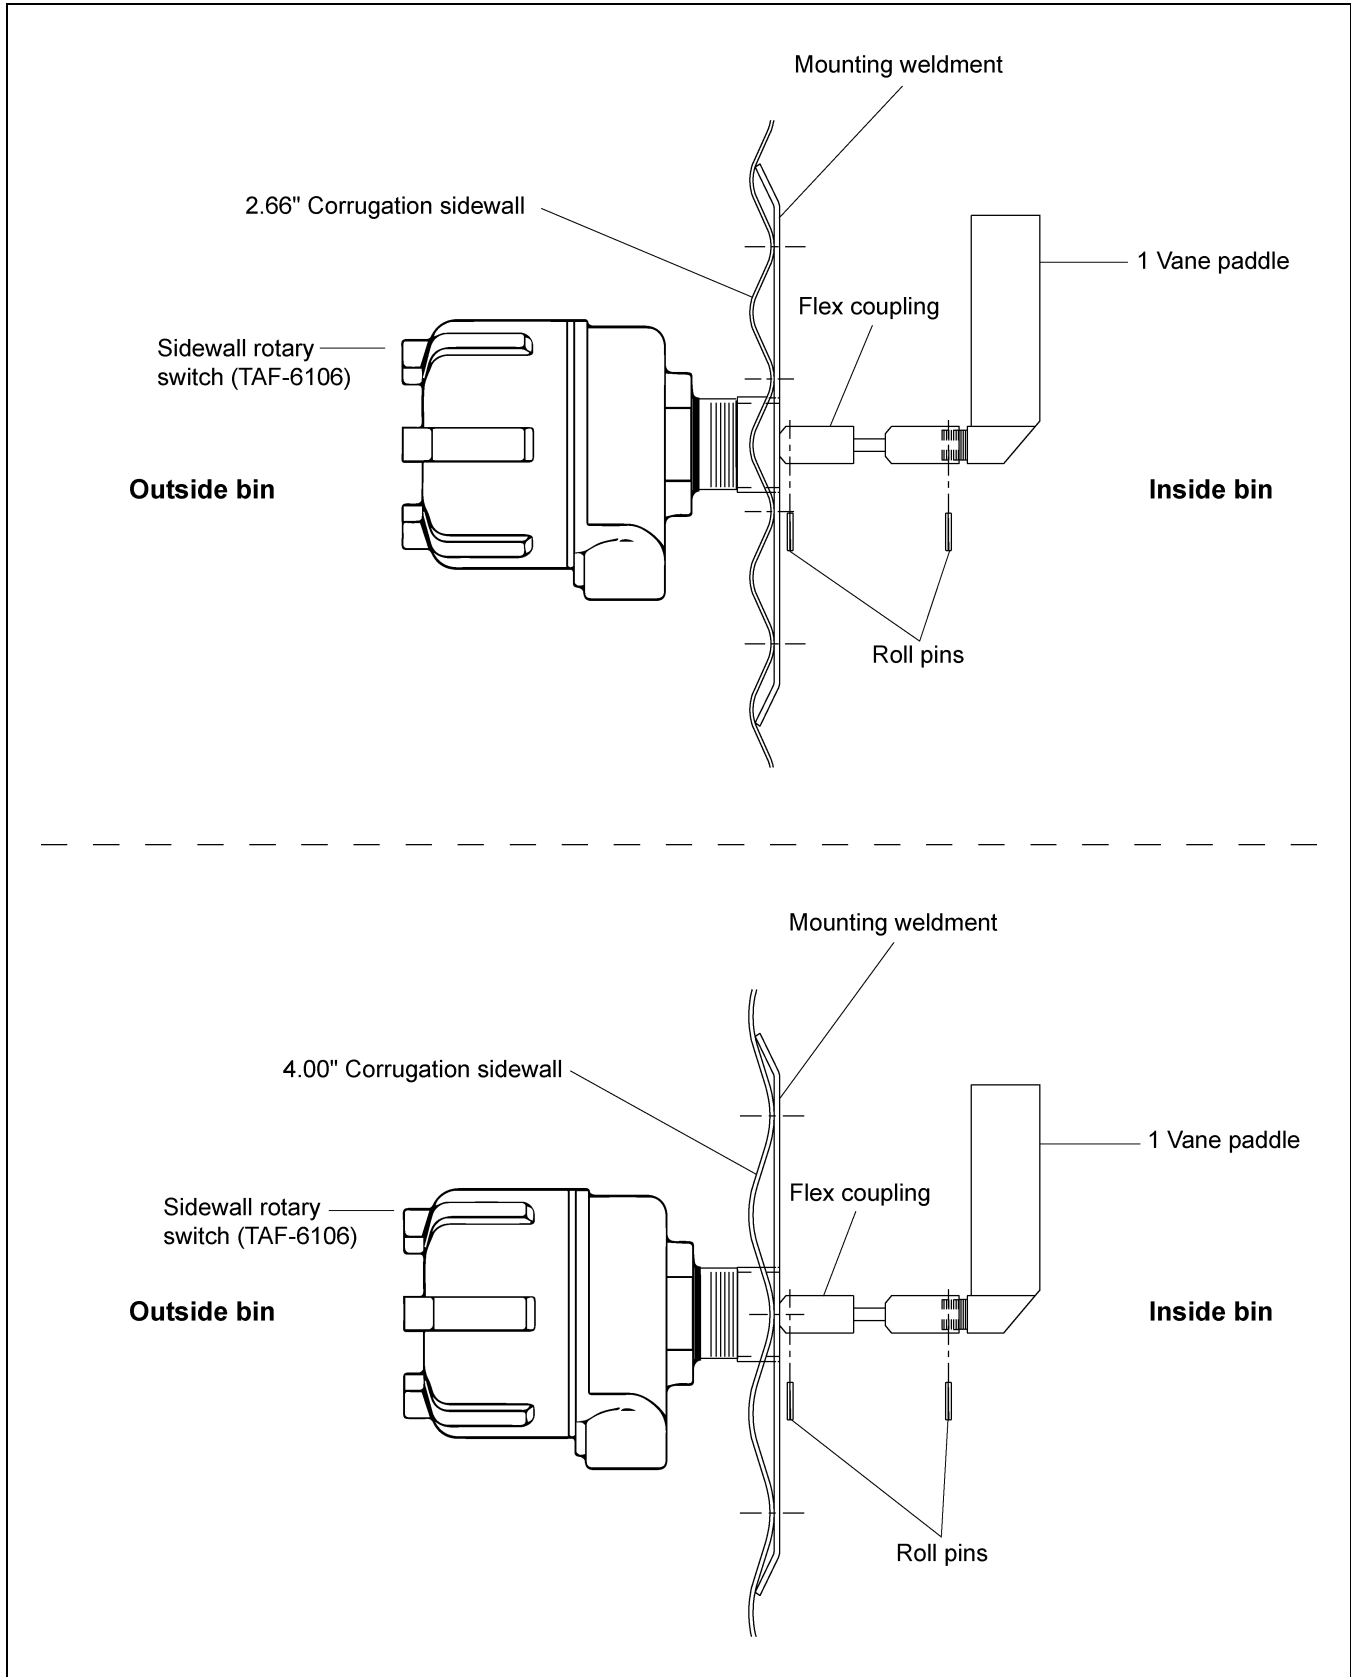

Figure 3P
4. Use the mounting plate as a pattern and drill four (4) 3/8" holes through the sidewall at the switch location so the plate can be bolted to the bin.
9. Attach the 1 vane paddle to the flex coupling as shown in Figure 3P on Page 31.